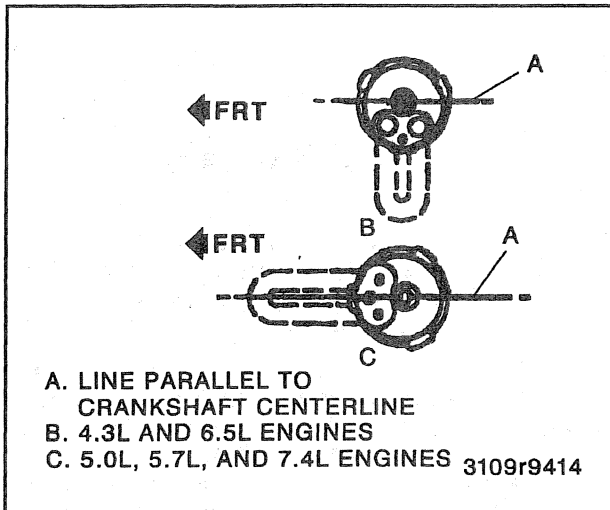

Figure 1—Engine Coolant Heater
Remove or Disconnect (Figures 1 through 5)
Install or Connect (Figures 1 through 5)
- Install the heater element in the correct direction to avoid element contact to the inside walls of the engine block as shown in figure 1.